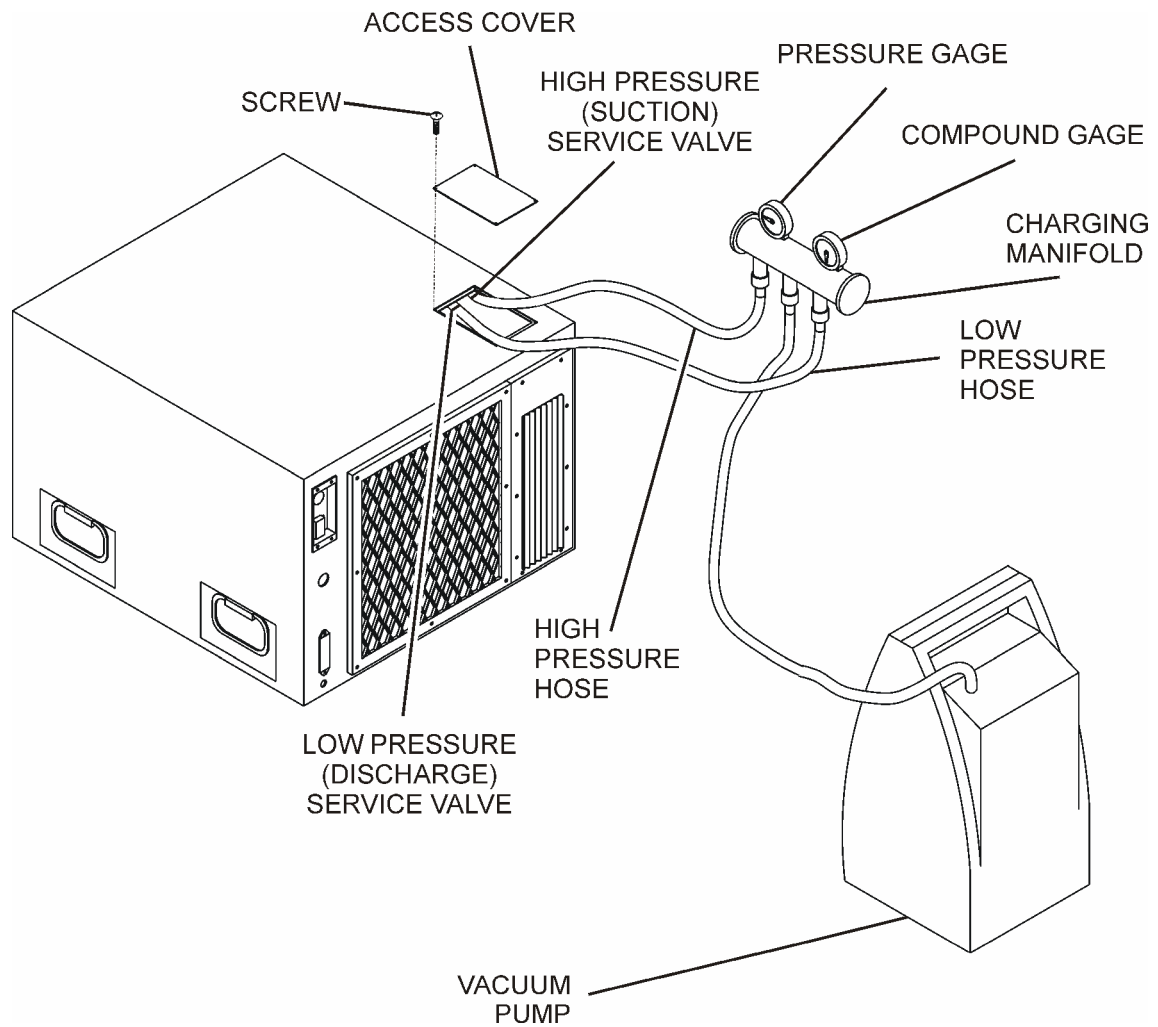

Figure 1. Evacuation Setup
1. Connect the hose from the low pressure service valve to the compound gauge side of the charging manifold. The hose from the high pressure service valve shall be connected to the high pressure gauge side of the charging manifold. See figure 1.